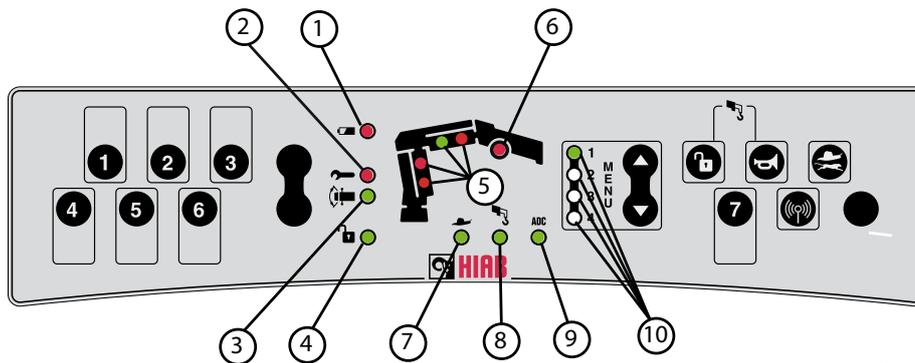

Fig. 5
The group toggle button allows the operator to select the menu, 1-4, of functions to be controlled by the proportional levers. The menu's LED (10) (Fig. 5) indicates in what menu you are at the moment.
The control panel has indicator LED's which indicates button positions, errors, stability sector, hoist etc. For detailed information, see table below (Fig. 5).